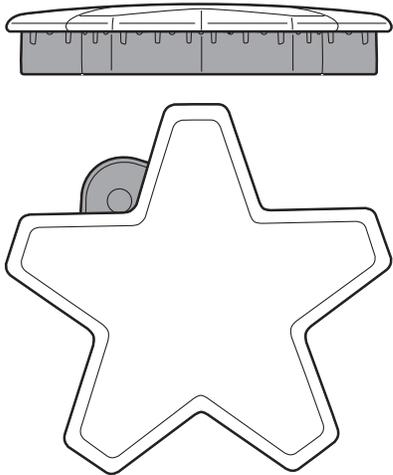
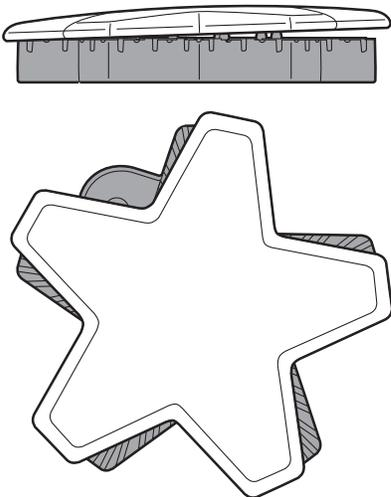

Figure 15: Correct Burner Cap Placement
Figure 16: Incorrect Burner Cap Placement
Each STAR[®] burner has its own electronic igniter that sparks when the burner is turned on. Each burner should light in 4 seconds or less. If a burner does not light, check to see that the burner cap is positioned correctly on the base (see *Figure 15* and *Figure 16*).
- Check each burner to make sure there is no gap between the burner cap and burner base. See *Figure 15* and *Figure 16* for examples of correct and incorrect placements of the burner cap.
- You may gently try to move the burner caps from side to side to check if the caps are properly placed on the burner bases. When properly placed, each burner cap will rest flat on top of its burner base, and completely cover the star-shape of the burner base when viewed from the top as shown in *Figure 15*.